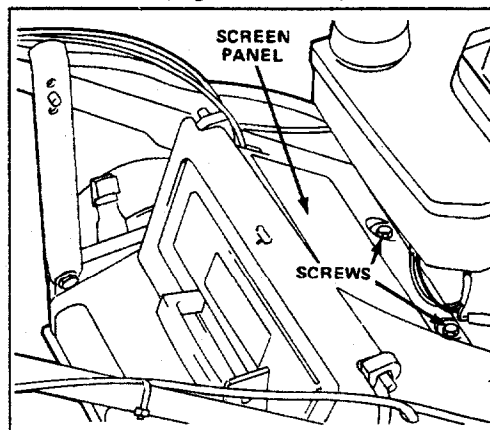

Figure 38
6. Remove screen panel and access cover on mower housing and clean around gear box and blade brake mechanism (Figs. 38 & 39).